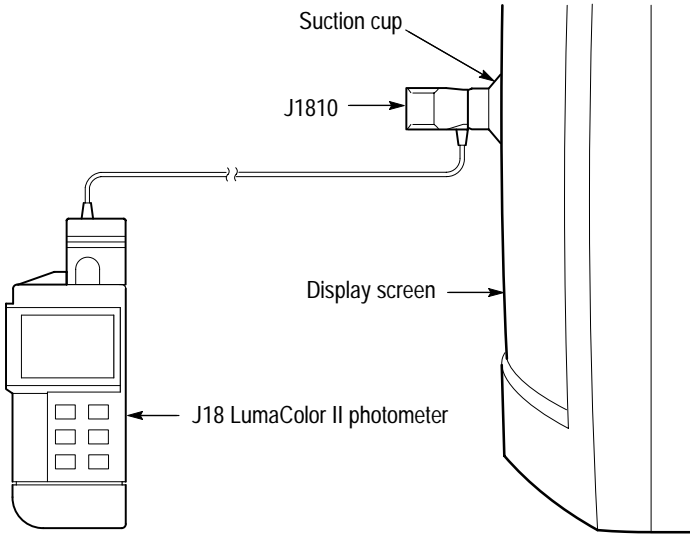

Figure 1-14: J1810 setup for display chromaticity measurements
3. Attach the suction cup to the J1810 and position the J1810 on the display. Refer to Figure 1-14.